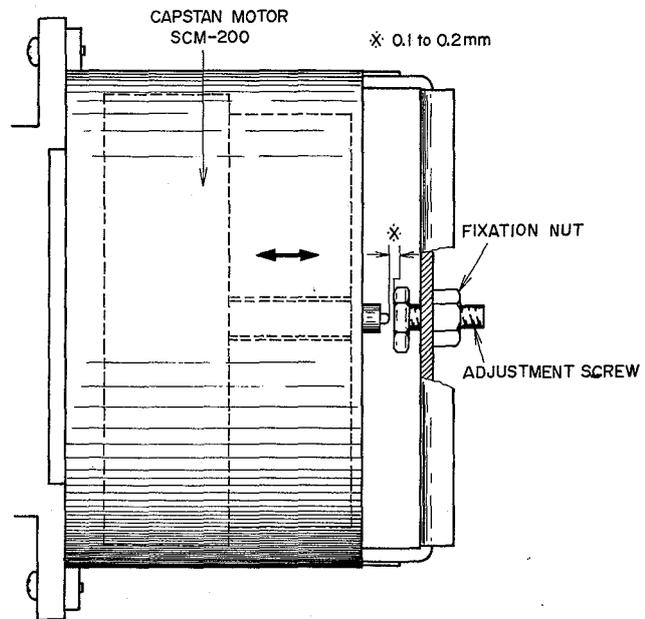

Fig. 7
5. CAPSTAN SHAFT LOOSE PLAY ADJUSTMENT (Refer to Fig. 7)